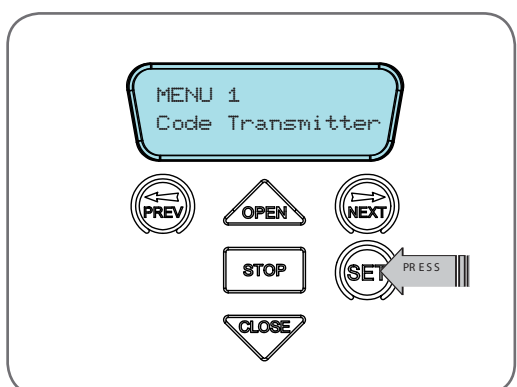

Fig 11.6
- Press SET to enter the code set procedure (Fig. 11.6).